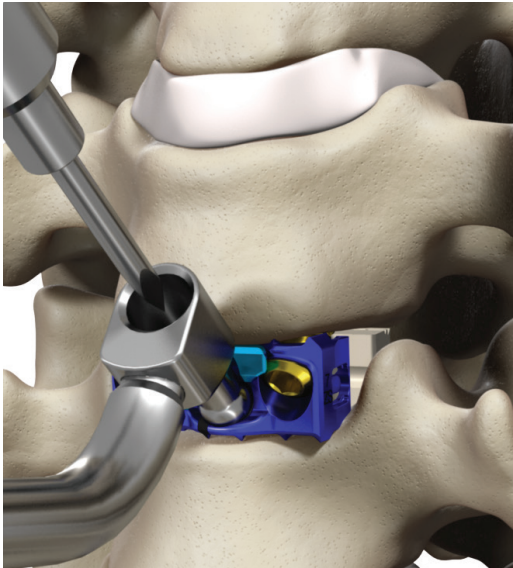

Figure 72
- Prepare the midline screw hole using the fixed or variable drill guide. The appropriate angle ranges for the midline screws are 35° to 45° cephalad/caudal and 0° to 10° medial/lateral (Figure 72).